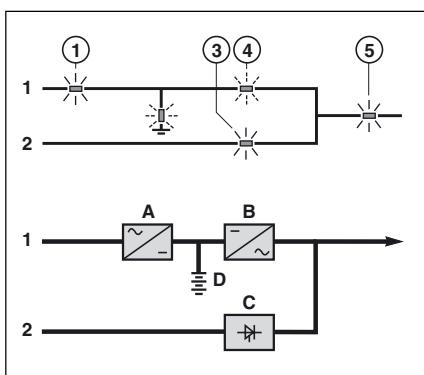

Fig. 12
► after battery discharge (see figure 12).